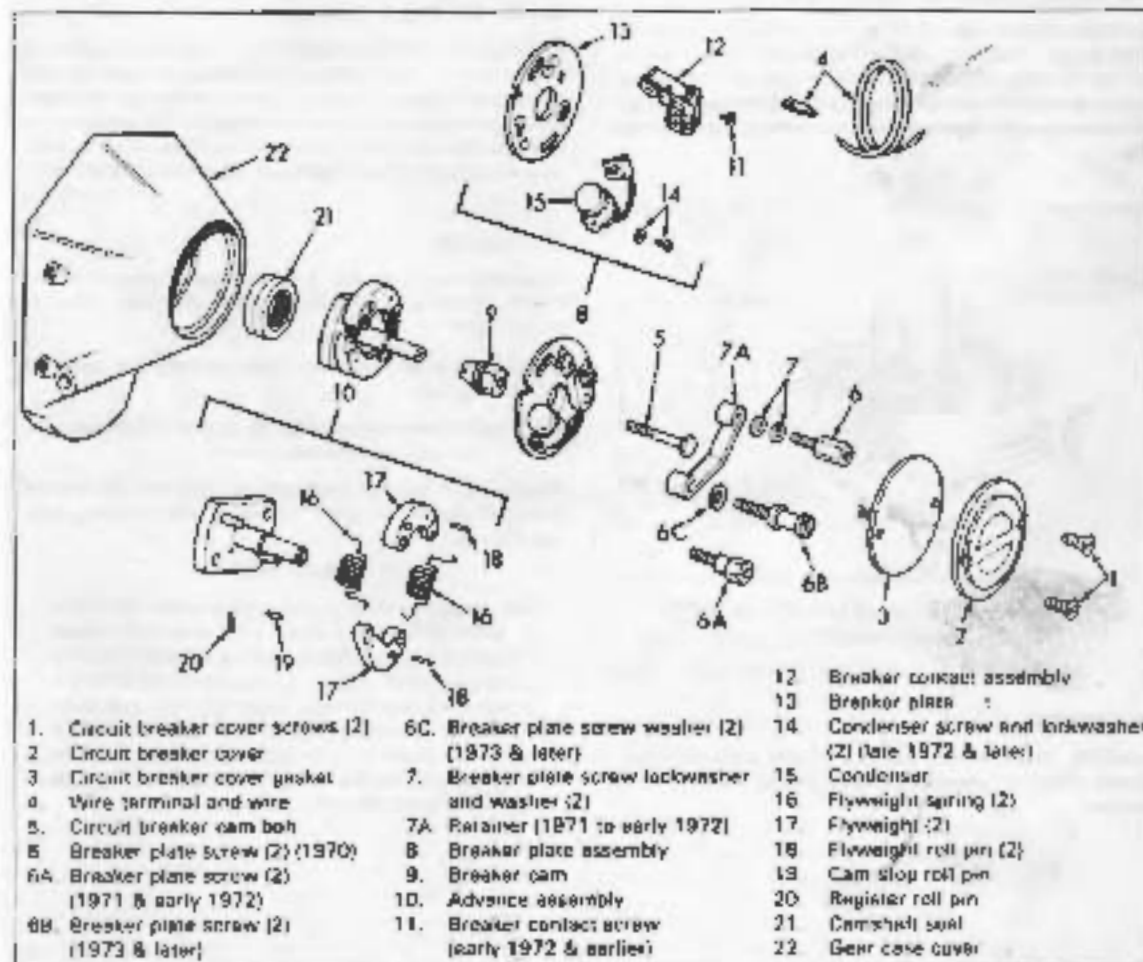
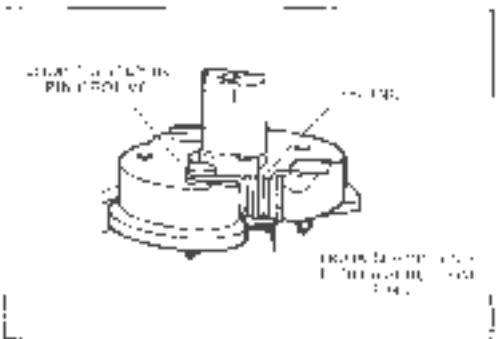

Figure 5-20. Circuit Breaker - Exploded View
Figure 5-21 Advance Unit Flyweight Spring Assembly
(Figure 5-20)
Check flyweight springs, and if bent or stretched, hydro-bend them. When installing, be sure position end of each spring is hooked through bottom of hole, and that upper hole end is held in place of pin tightly. See Figure 5-21.
Examine the contact breaker points as shown in Figure 5-20 for signs of excessive erosion, pitting and pitted surfaces and replace if defective.
Contact breaker point gap should be within 0.5-0.005 inches on both cam lobes. If the system is single-point type (2) Figure 5-20 or dual-point system (1) Figure 5-21 it may be assembled manually on all all 4 cam lobes. If the breaker is equipped with a condenser, generally covering both (2) and (3) positions, advance assembly (1) flyweight (4) contact gap will equate approximately with both (2) must be adjusted to 52-60 in the books.